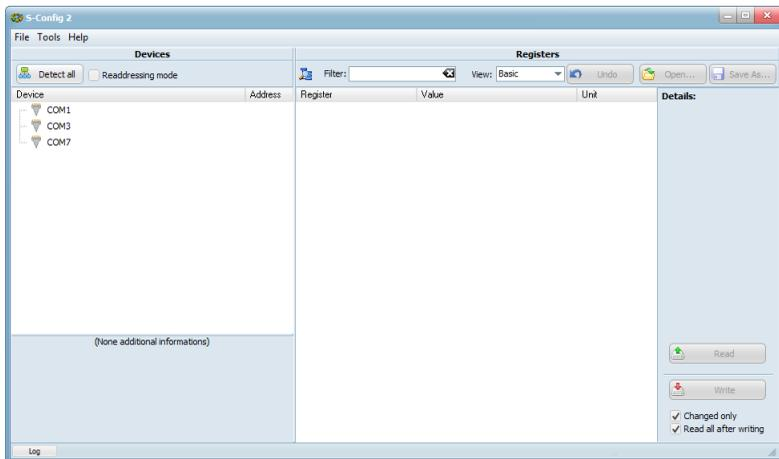

Figure 3.1. The program state after the first launch
When the program launch first time, the **List of devices** (2) contains only serial ports available in the computer. This list contains all COM ports physically located on the PC's motherboard and virtual COM ports created by the driver such as USB/RS-485 converter (Figure 3.1).